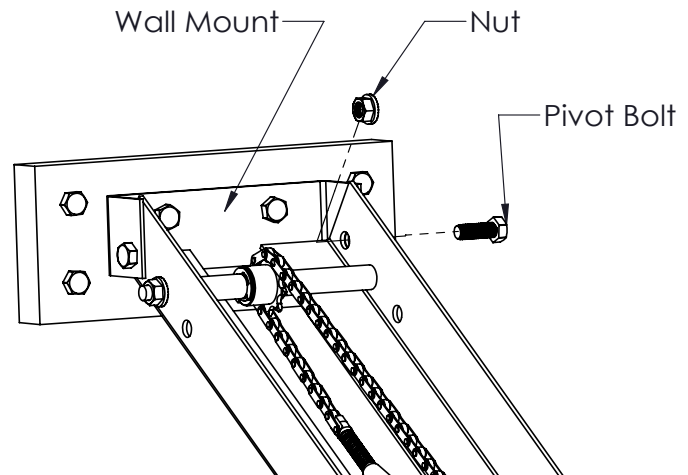

FIGURE 4
1. Raise the front end of the rail assembly to the wall mount and loosely install two 5/16 bolts and nuts to act as pivot points. (Figure 4)